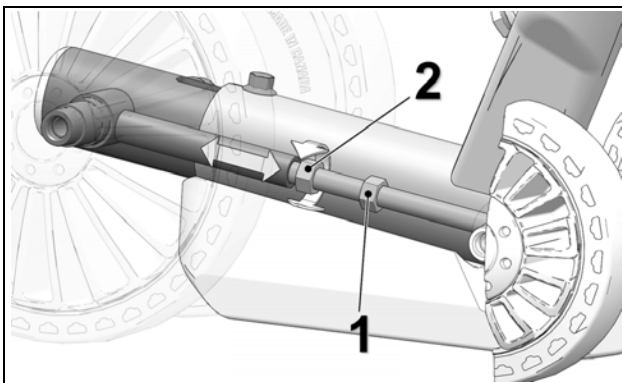

Figure 29
- Loosen jam nut (1) and turn adjusting nut (2) to set track tension. See Figure 29.